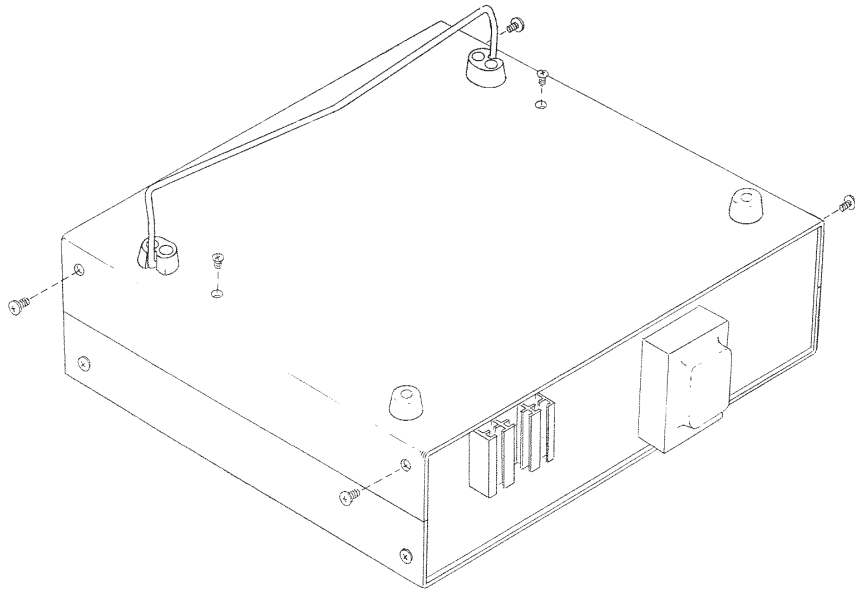

Figure 1
1. Remove bottom cover by removing the two truss head screws from each side of the unit, and the two flat head screws from the bottom. See Figure 1.